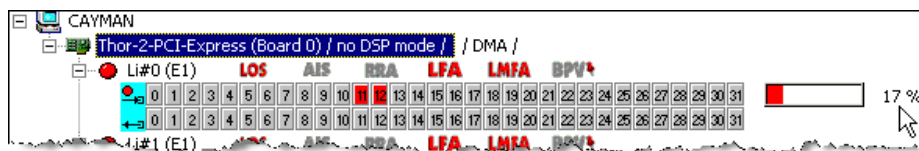

Figure 156
- If the size of recording is limited, the progress of recording operation and the ratio of recording time to total time are displayed (Figure 156).